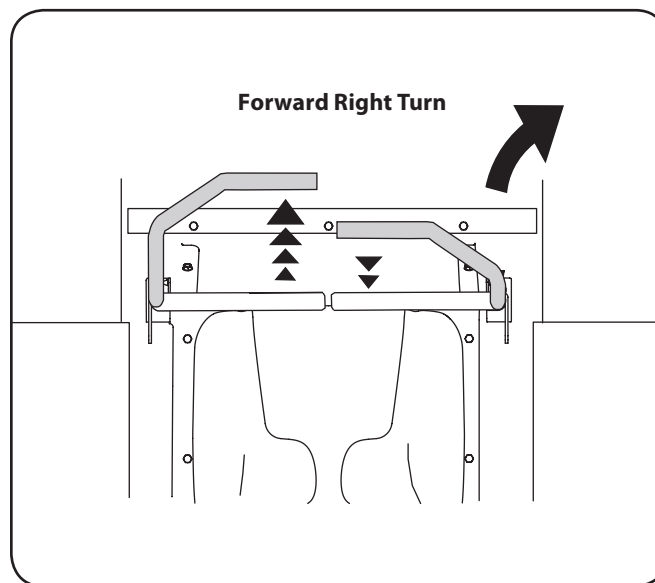

Figure 5-4
- To turn to the right, move the right drive control lever rearward of the left lever. See Figure 5-4.